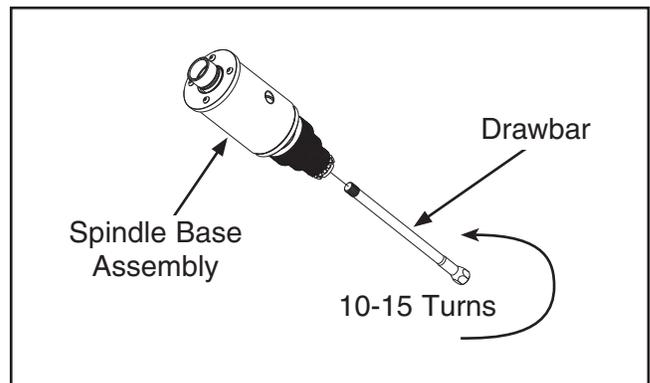

Figure 16. Inserting drawbar into place (spindle housing removed for clarity).
3. Insert drawbar approximately 10-15 turns into the bottom of the spindle base assembly, up through spindle pulley and assembled parts (see **Figure 16**).